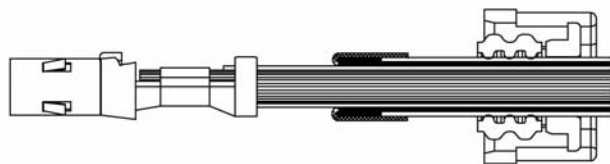

Figure 8
**i** *NOTE* The 41.0 mm and 3.25 mm minimum dimensions are functional dimensions and must be correct in the final assembly as shown in Figure 8.